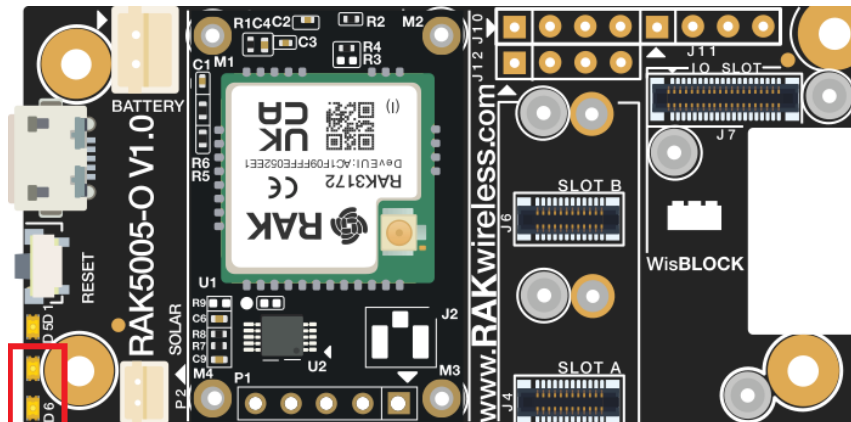

Figure 10: RAK3172 Evaluation Board LEDs
1. After completing the steps on adding your RAK3172 to the Arduino IDE, you can now try to run a simple program to test your setup. Your RAK3172 evaluation board already has two LEDs to test. The LEDs can be found near the reset button and USB connector, as shown in **Figure 10**.